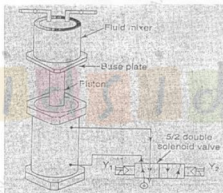

Figure 1
- (b) Two double acting cylinders A and B are selected for industrial automation. The motion of sequence (AB)+ B+ A- Draw Pneumatic circuit diagram and step displacement diagram. Select 5/2 way final directional control valves. Note that Cylinders A and B are moving simultaneously for the forward stroke. (12)
- Q.6 (a) Explain impedance matching for a part of electromechanical system that consists of transmission of power using motor-gear drive system. (8)
- (b) A fluid mixer is used to mix two fluids with a vibrating machine, as per the machine sketch shown in Figure 1. The vibration machine is operated by a double acting pneumatic cylinder. The double acting cylinder is extended initially and when a pushbutton is pressed, the mixer mounted on a vibrating table moves down completely by retracting the cylinder and then executes an up and down motion between the retracted position and the center position of the cylinder. The vibrating time is adjusted for 10s; after that the cylinder is switched OFF automatically. Three electrical limit switches, one at the center of cylinder position and other two at end positions, are used to control the strokes. Draw PLC ladder diagram to achieve the above sequence of operation. (12)